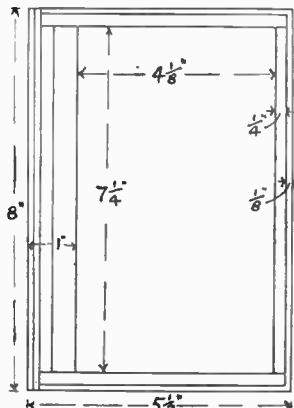

Fig. 1
Fig. 1 shows the case work in detail, and it will be noted from this drawing that the covers project 1/8 in. beyond the case, which is the amount usually allowed for book covers.
With an idea of going into an oval and leading on to a circle, the sleepers of much tinplate straights are thinner at one side than the other, so as to preserve the super-elevation of the curve, see (A) Fig. 1. This is all right for small oval running, but for good lengths of straight on more ambitious layouts it means that the trains are running